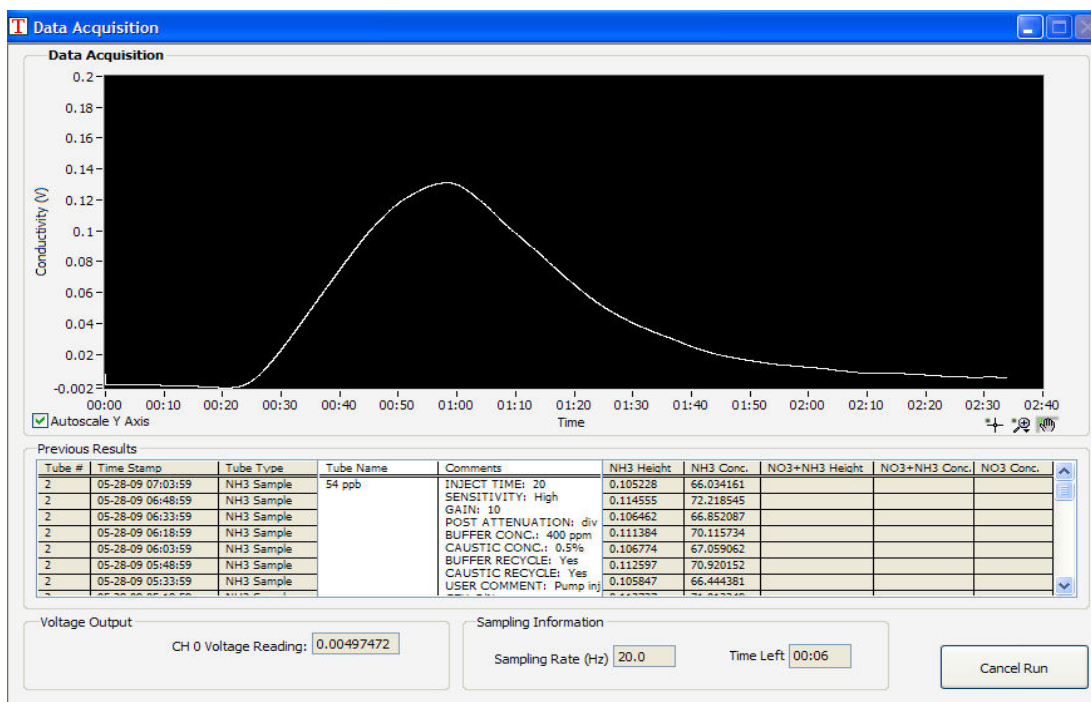

Figure 3-4: Data Collection Screen.
2. In the 'Calibration' sub-tab click the 'Start Calibration Run' button to commence data acquisition. The black data collection screen will appear. See figure 3-4.